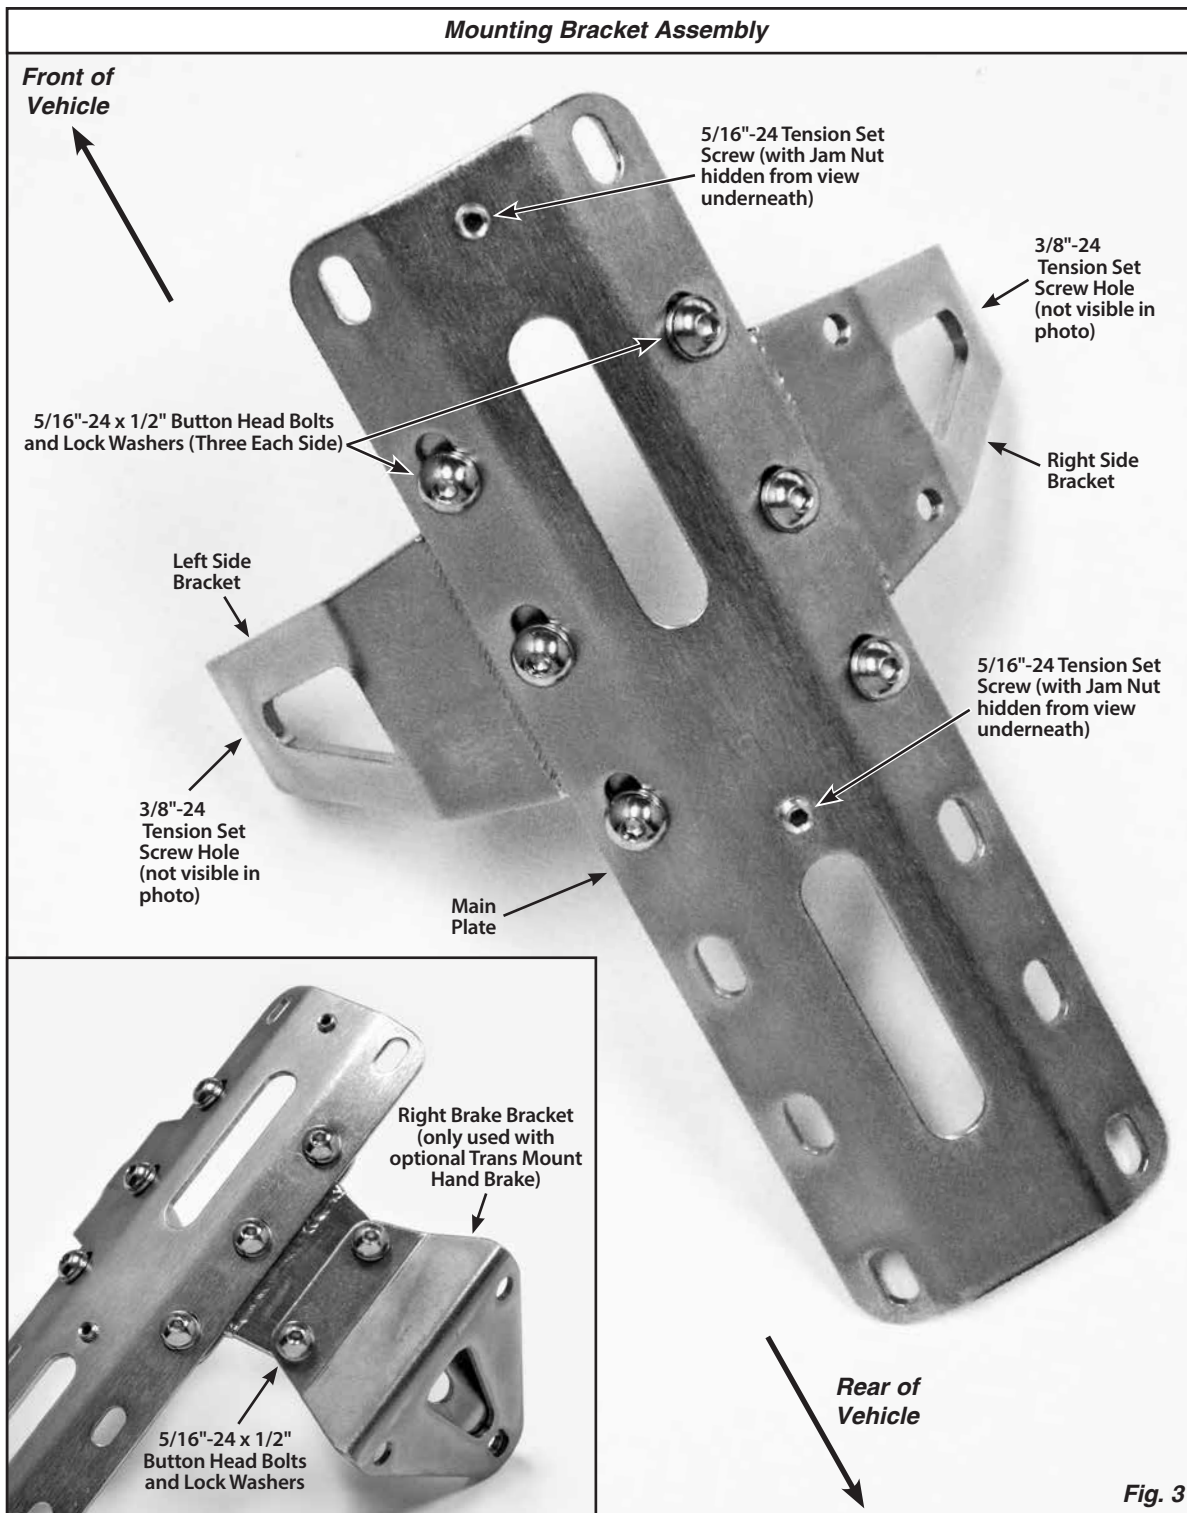

Fig. 3
**Step 4:** The left side bracket and right side bracket bolt directly to the main plate. Attach the side brackets to the underside of the main plate as shown in **Fig. 3**, using three 5/16"-24 x 1/2" button head bolts and lock washers on each side. **DO NOT TIGHTEN AT THIS TIME.**
**NOTE:** An additional bracket (the right brake bracket) is included with the Shifter. The right brake bracket will only be used if you are installing a Trans Mount Hand Brake (available separately, not included). If you are installing a Trans Mount Hand Brake, use the supplied 5/16"-24 x 1/2" button head bolts and lock washers to mount the right brake bracket onto the outside of the right side bracket. **Fig. 3 inset**